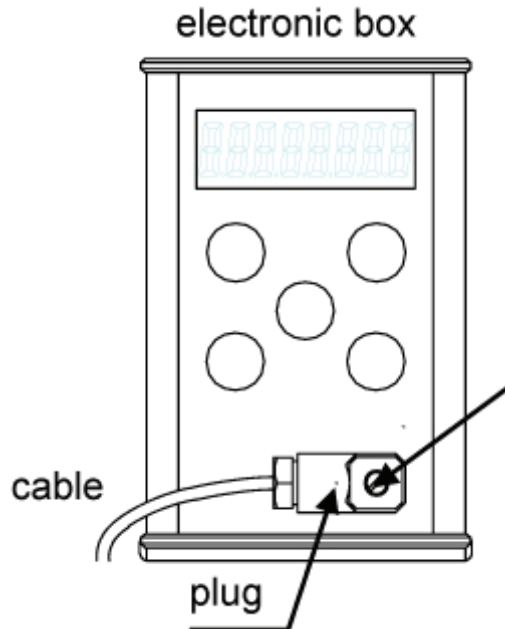
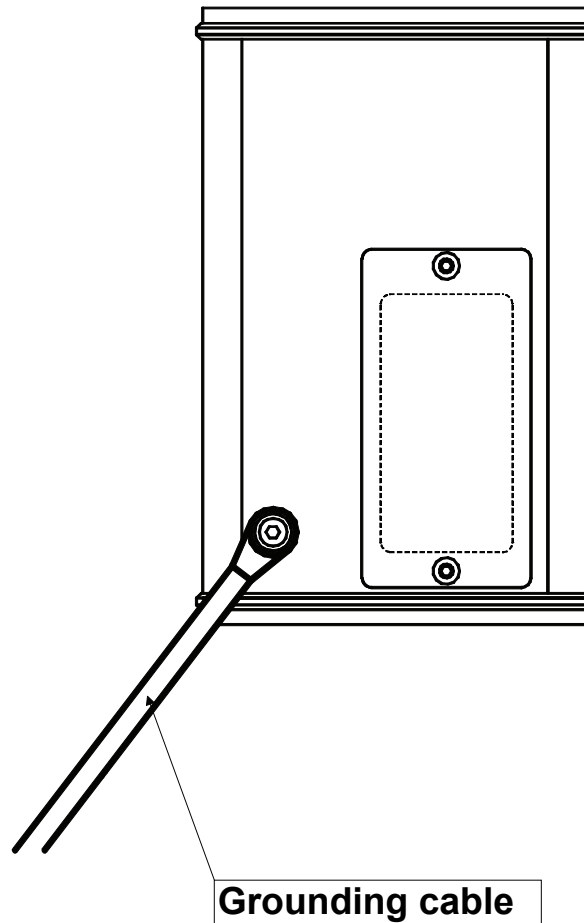

Figure 5
Figure 6
- (1) Unscrew and remove the grounding cable from the rear of the electronic box. See Figure 6.
- (2) Unscrew and remove the plug located on the front face of the electronic box. See Figure 5.
- (3) Clip the new electronic box into the frame.
- (4) Connect the plug to the electronic box and secure it with the screw.
- (5) Screw the grounding cable onto the correct location on the rear of the electronic box. See Figure 6.